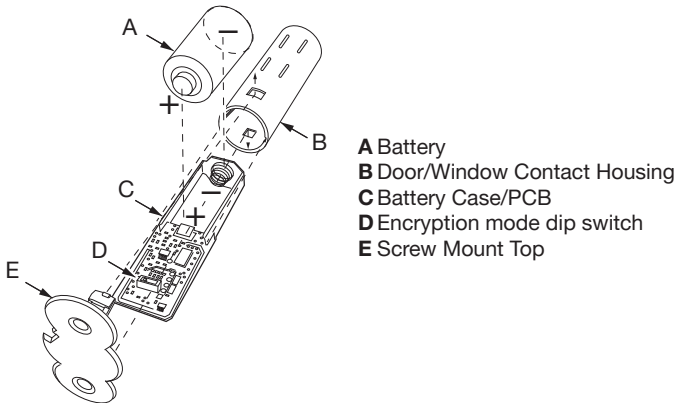

Figure 3 Battery Compartment and Polarity
The sensor is capable of transmitting signals in encrypted mode or unencrypted mode. The mode is set through a switch inside the sensor (see **Figure 3**).
- 2 Locate the dip switch (see **Figure 3**) and note the switch setting: **ON** indicates *encrypted*, and **1** is *non-encrypted* mode.